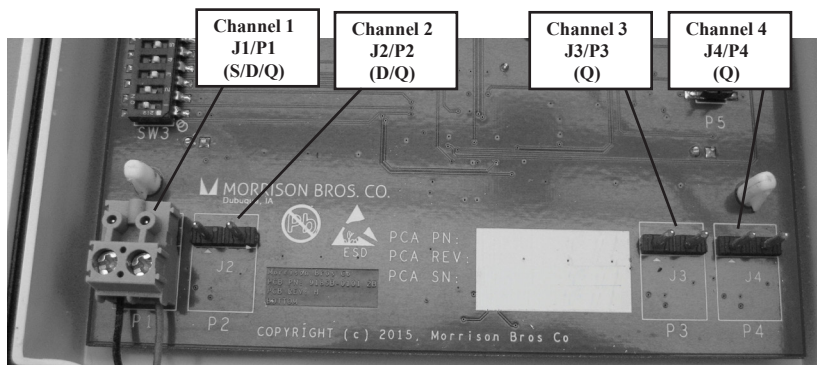

Figure 3 Plug the Channel Input Connector(s) onto the Channel Input Pins of the Alarm Circuit Board (918Q shown)
- b. Verify that the wires are securely held in the connector by gently tugging on them. Plug the connector onto the Channel Input pins of the Alarm Circuit Board (see Figure 3).